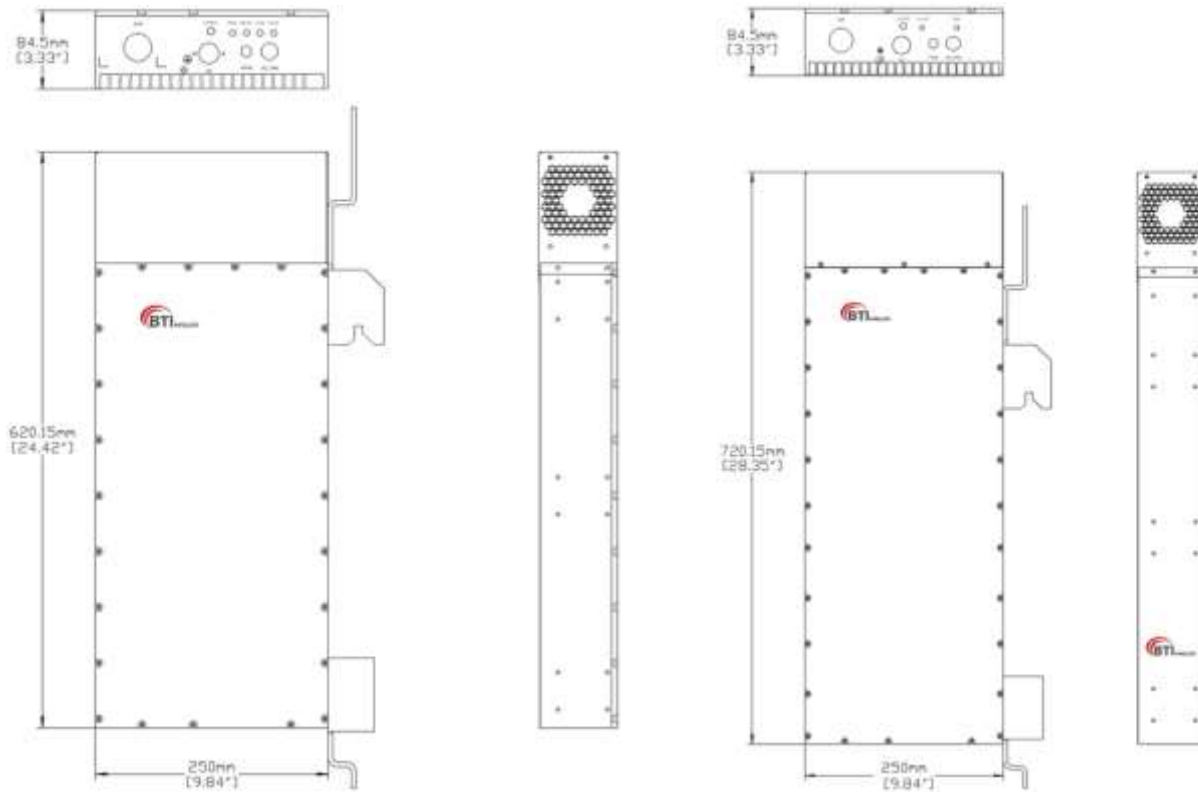

Figure 13 Single-band RU Enclosure
The Single-band Remote Unit (RU) enclosure provides forward and reverse amplification of the RF signals within the specified band. Its enclosure accommodates the remote single-band modules and protects them from the environment. The enclosure consists of the housing, mounting brackets, and enclosed MCPA (Multi-Carrier Power Amplifier), power supply, controller unit, duplexer modules. Figure 13 shows the single-band enclosure dimensions.